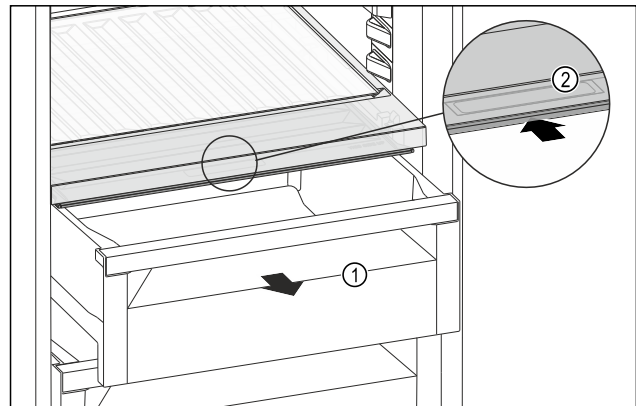

Fig. 169
- ▶ Pull out the drawer Fig. 169 (1).
- ▶ Grip the handle recess Fig. 169 (2) on the lid while pulling the lid backward at the same time.